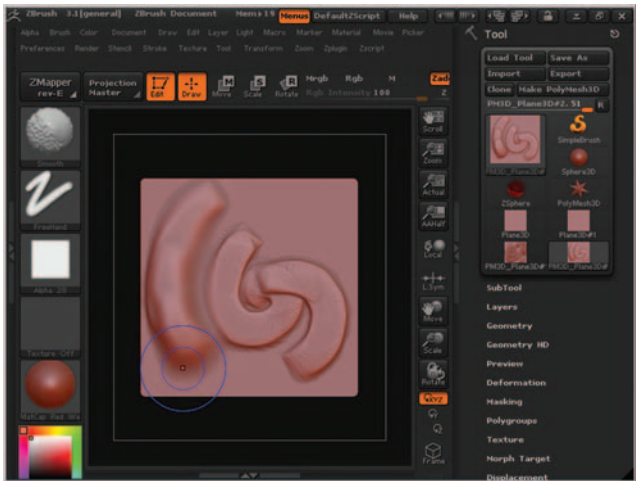

Figure 11.20 Smooth used on the Clay Tubes strokes to soften them. Note the blue circles indicating Smooth is active.
- 21. With the brush still active, press Shift to toggle the Clay Tubes brush to the Smooth brush. The two red circles turn blue to indicate that the Smooth brush is active. With Shift held down, make some strokes over the existing strokes to smooth them. By default all brushes have Smooth set to toggle when the Shift key is pressed and held. You can change the toggle to any brush you like; refer to the manual for further information. Figure 11.20 shows the mesh after smoothing. Note that the circles are blue, and the Brush icon is indicating the Smooth brush is active.